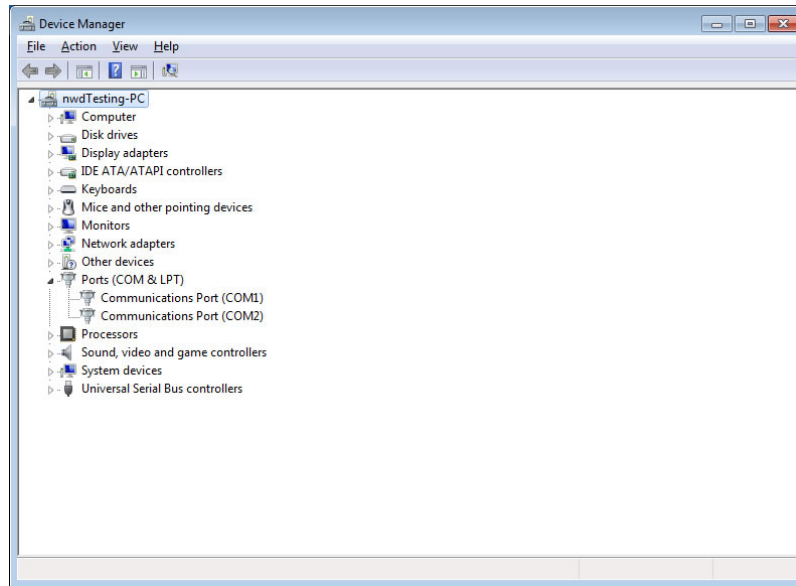

Figure 11. Device Manager window
3. Click **Device Manager**. The Device Manager window opens (see Figure 11).
4. Expand **Ports (COM & LPT)** (see Figure 11).